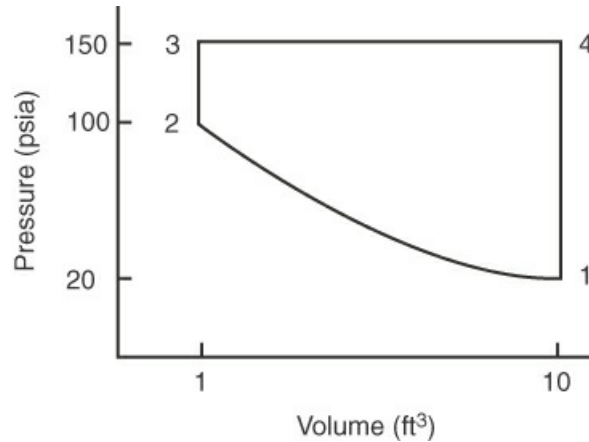

Figure SAT8.2.2P2
2. Nitrogen gas goes through four ideal process stages, as detailed in Figure SAT8.2.2P2. Calculate the work done by the gas on each stage in British thermal units.